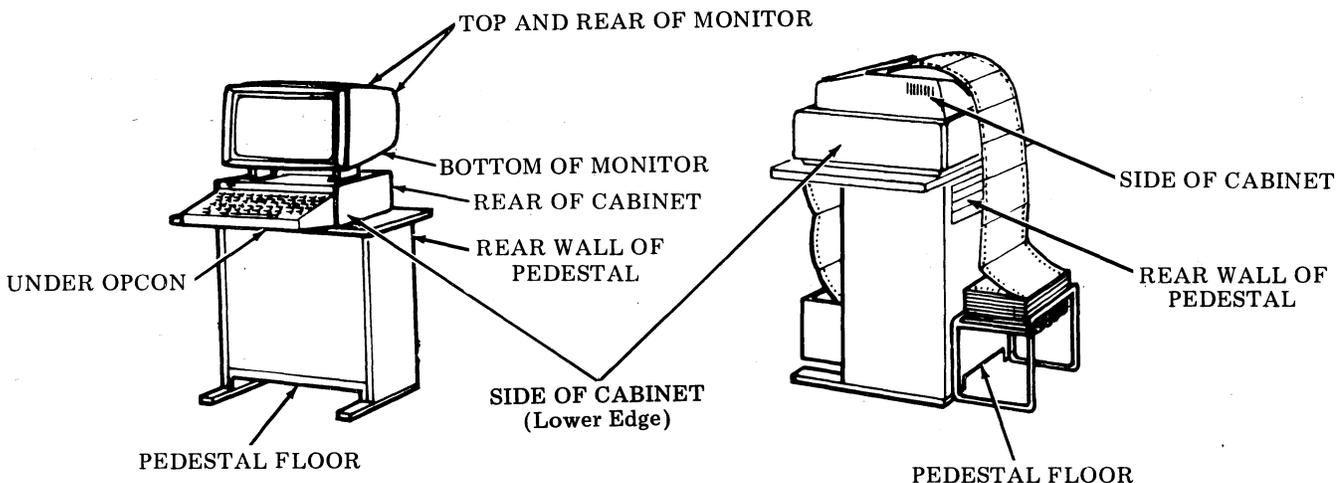

Fig. 3—Ventilating Screen Locations
- (a) Clean all ventilating screens; use a soft bristled brush to remove debris, while vacuuming, see Fig. 3.
- (1) Wash with mild detergent solution.
- (2) Rinse with damp cloth.
- (3) Buff dry with soft cloth.